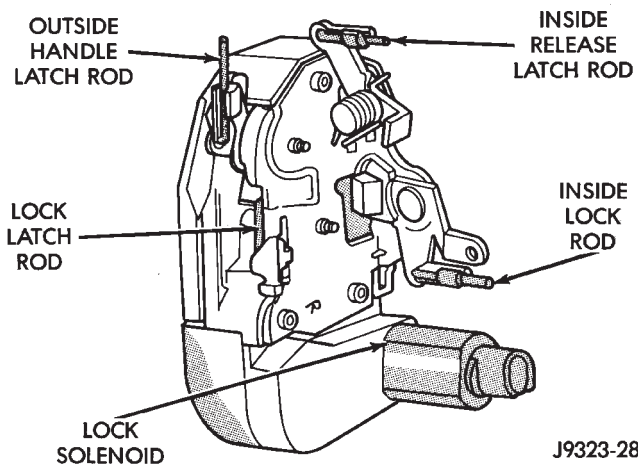

Fig. 18 Door Latch
- (3) Disconnect all rods from door latch (Fig. 18).
- (4) Remove door latch from door.